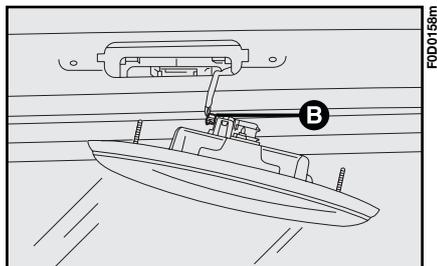

fig. 25
- 2) disconnect connector **B**-fig. 25;